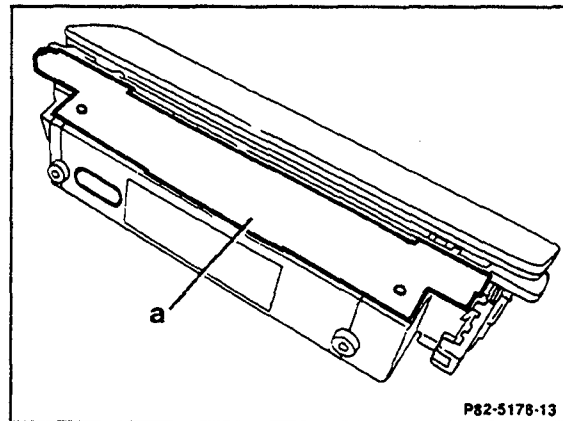

Figure 4
12. Place template (a) on top of eyeglass compartment (Figure 4).